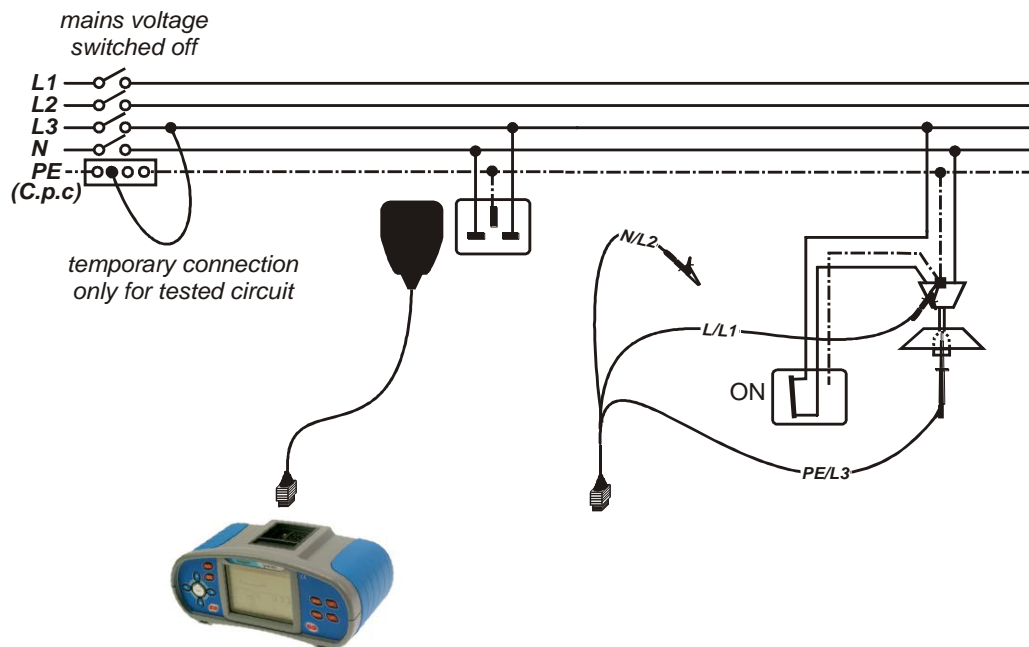

Figure 5.16: Measurement resistance of L – PE loop ($R1+R2$) using plug and universal test cable
- ❑ **Connect** test cable to the tested wiring (see figure 5.16).